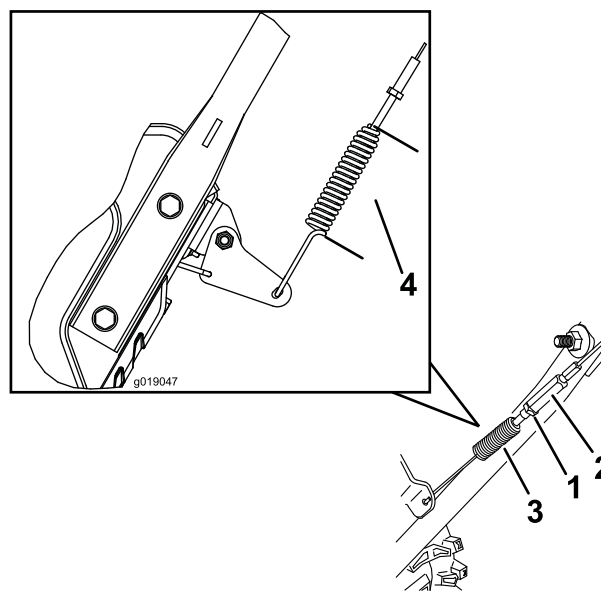

Figure 40
- Loosen or tighten the turnbuckle to adjust the spring length to 7 cm (2.75 inches) (Figure 40).
- Tighten the jam nut (Figure 40), ensuring there is slight tension on the cable.